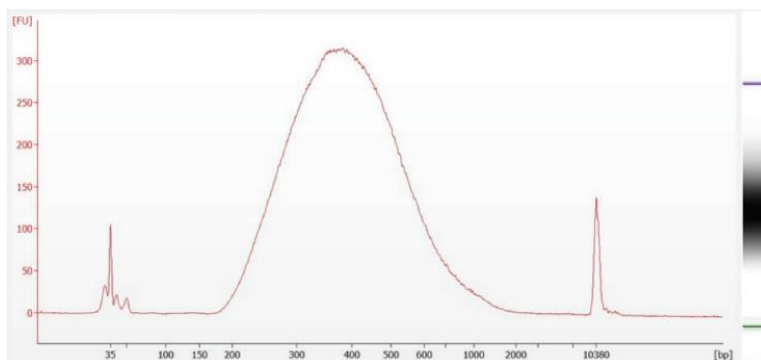

Figure 2. Electropherogram of final library samples that were prepared as described. Note the single prominent peak at ~400 bp.
20. Validate and quantify each enriched library using LabChip® GXII Touch™ Nucleic Acid Analyzer or equivalent and a Thermo Fisher Scientific Qubit dsDNA High Sensitivity Quantitation Assay (Figure 2).